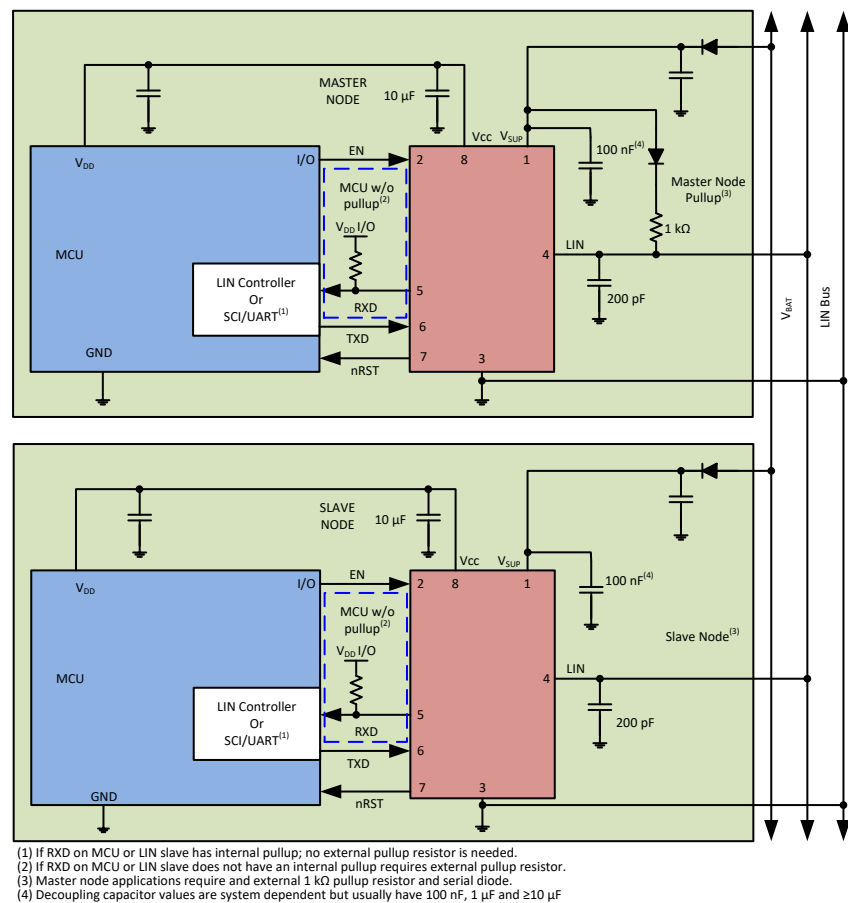

Figure 24. Typical LIN Bus
The device comes with an integrated 45 kΩ pull-up resistor and series diode for slave applications. For master applications an external 1 kΩ pull-up resistor with series blocking diode can be used. Figure 24 shows the device being used in both master and slave applications.
- **Pin 2 (EN):** EN is an input pin that is used to place the device in a low power sleep mode. If this feature is not used, the pin should be pulled high to the regulated voltage supply of the microprocessor through a series resistor, values between 1 k Ω and 10 k Ω . Additionally, a series resistor may be placed on the pin to limit current on the digital lines in the event of an over voltage fault.
- **Pin 4 (LIN):** This pin connects to the LIN bus. For slave applications, a 200 pF capacitor to ground is implemented. For master applications, an additional series resistor and blocking diode should be placed between the LIN pin and the V_{SUP} pin. See Figure 24